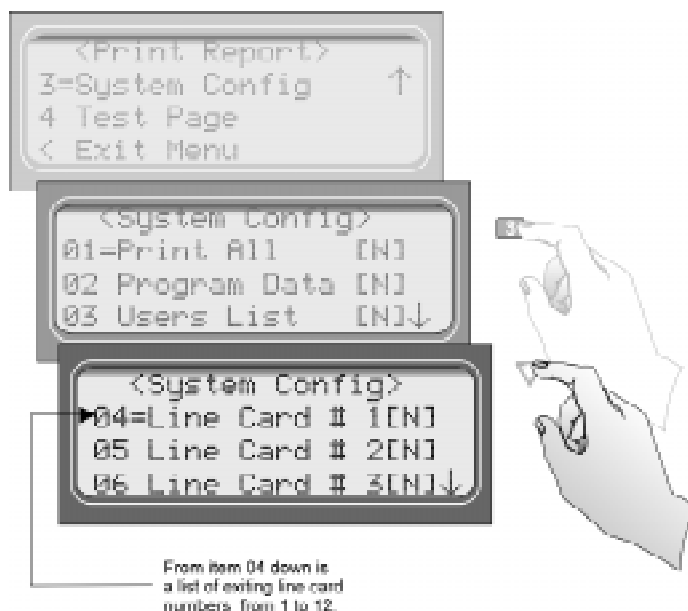

Figure 4-16 System Configuration Print Items
5. Press  to view system configuration options. See Figure 4-16.